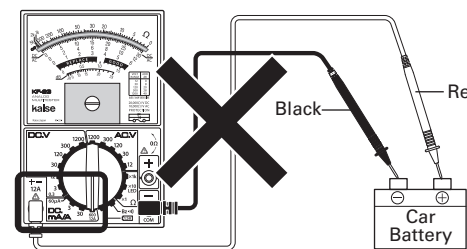
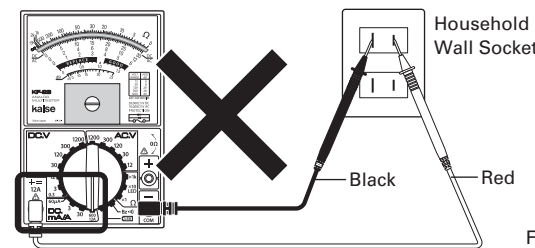

Fig. 3
Fig. 4
3. Do not measure any voltage in 12A DC range such as +/- terminals of car battery directly (fig. 3), or household wall socket (fig. 4).